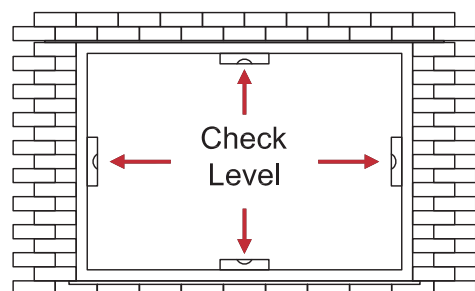

Fig. 1
**Please note:** The outer frame must be level and plumb (see Fig. 1) and not fitted in racked/twisted.